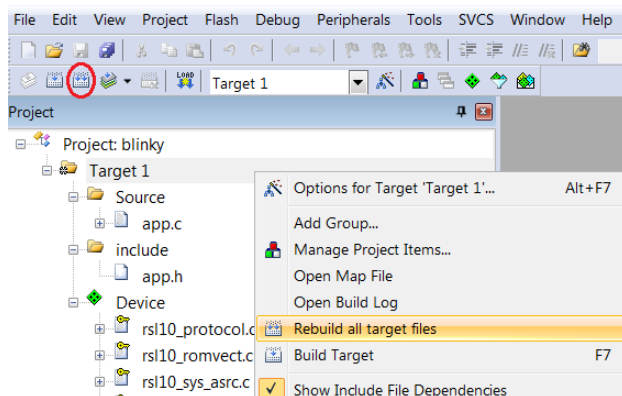

Figure 22. Starting to Build a Project in the Keil μ Vision IDE
1. Right click on **Target 1** and choose **Rebuild all target files**. Alternatively, you can use the icon shown in Figure 22.